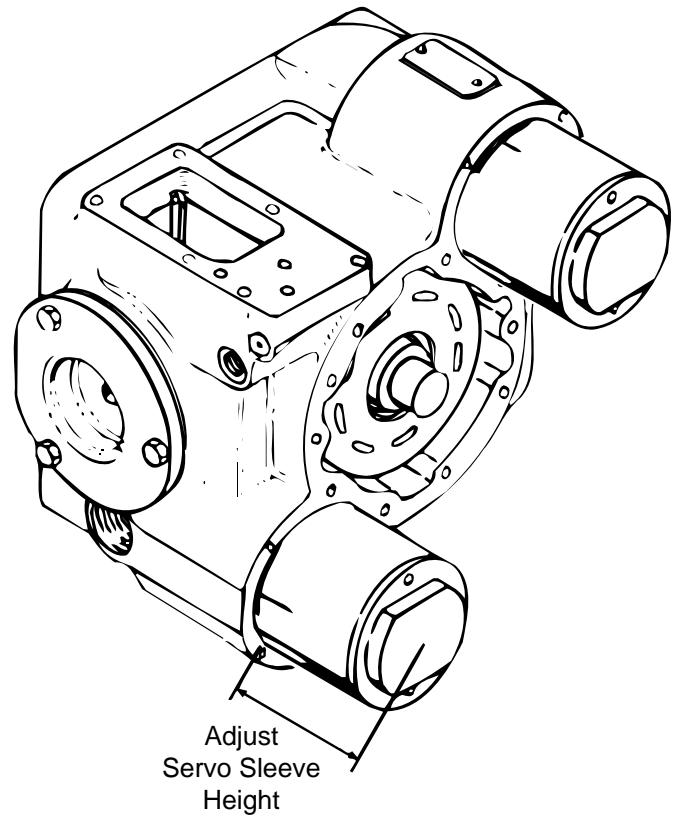

Figure 28
**78** Adjust the height of the servo sleeve that is over the piston without the spacer. Measure the height from the top of the servo sleeve to the end cover surface of the motor housing, see figure 28. The servo sleeve heights are given below: